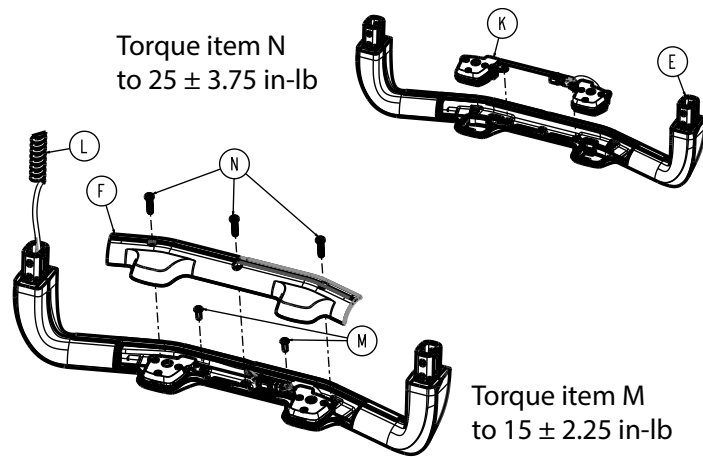

Figure 29 –
- Using a T15 Torx driver, remove the three pan head machine screws (N) that secure the grab bar cover (F) to the grab bar overmold (E) (Figure 29). Discard the screws.
- Using a T15 Torx driver, remove the two button head cap screws (M) that secure the UI module (K) to the grab bar (Figure 29). Discard the screws.
- Using a pick, disconnect the UI module (K) and UI coil cable connector (L) (Figure 29). Remove and discard the UI module.